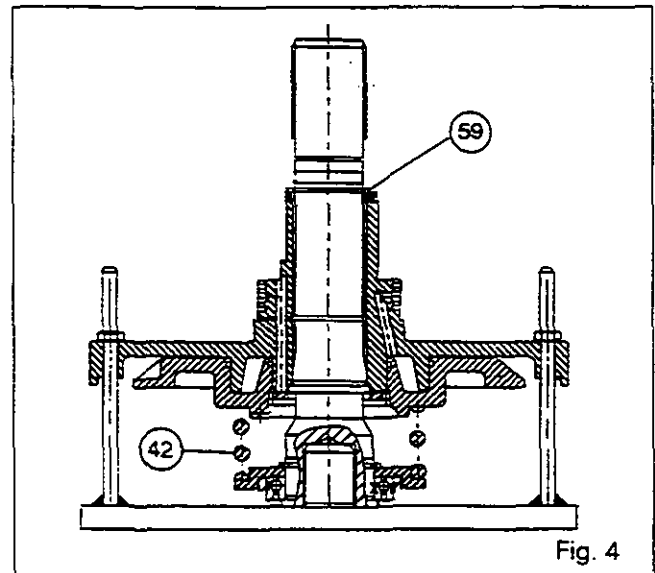

Fig. 4
46. Separate the clutch housing (23) from the cover (39). Remove the discs (44) and plates (45).
47. Remove the hub (37).
48. If necessary, extract the bearing (36).
49. Using a suitable fixture (see Part G), compress the spring (42). Remove the circlip (59) (Fig. 4). Remove the locking ring (4). Decompress the spring.
50. Separate the clutch housing (23) from the shaft (7). Remove the spring.
51. Remove the piston (46). If necessary, extract the bearing (50).
52. If necessary, remove the circlip (43), the support (41) and the bearing (40).